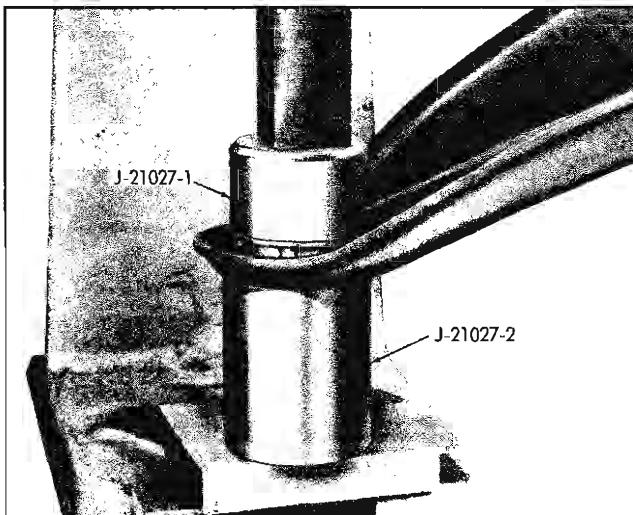

Fig. 3-36 Installing Bushing
2. Install new bushing in control arm using J-21027-2 support and J-21027-1 installer (Fig. 3-36).